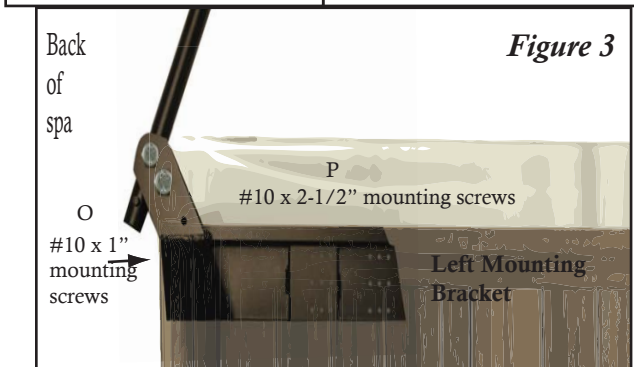

Figure 3
Attach the left and right mounting brackets to the appropriate sides of the spa using (6) #10 x 1" and (36) #10 x 2-1/2" screws (see Fig. 3).